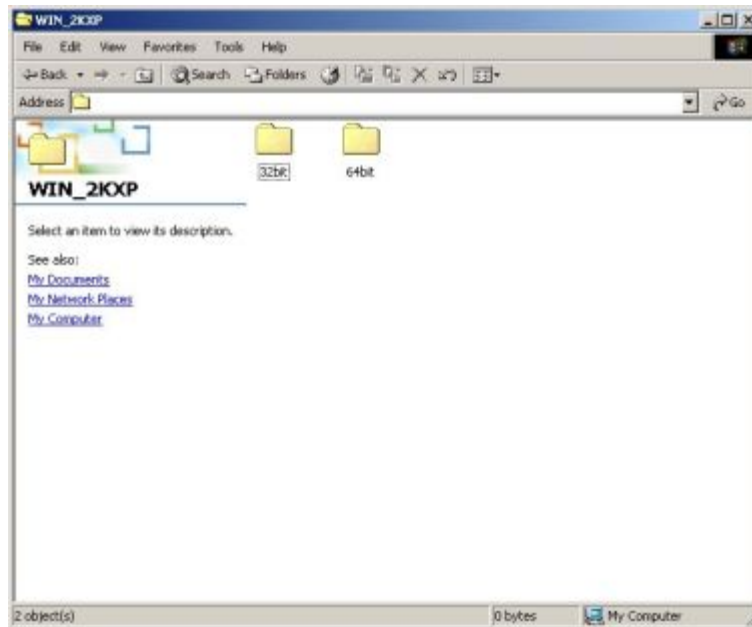

Figure 7-18: Select Operating System Type
Step 4: The window in **Figure 7-18** appears.
Step 5: In **Figure 7-18** select the operating system type installed on the system.